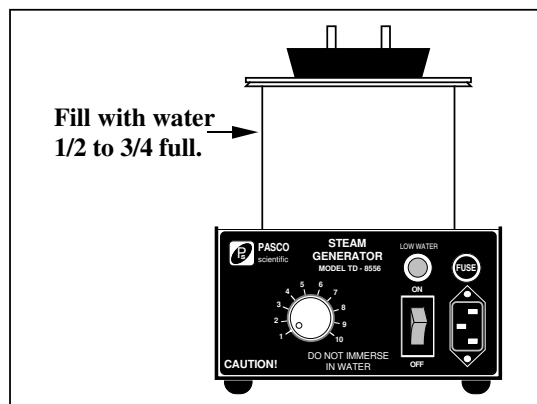

Figure 4: PASCO steam generator.
4. Fill the PASCO steam generator with water and turn it on. The level of the water should be ~3 cm below the top, or about 1/2 – 3/4 full (Fig. 4). Turn the knob to 9 until the water boils and then turn it down somewhat.